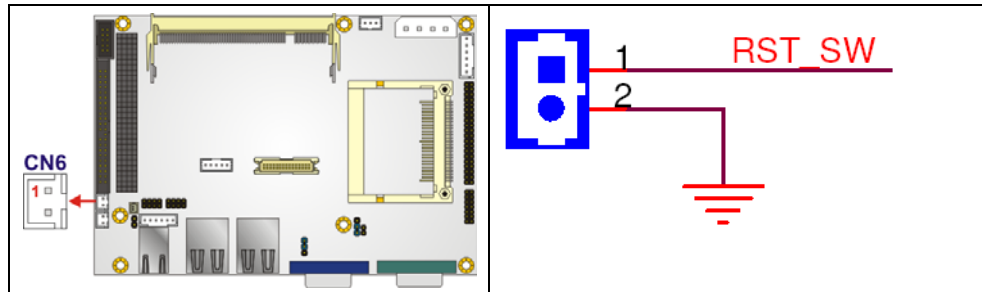

Figure 4-12: Reset Button Connector Locations
- CN Location:** See **Figure 4-12**